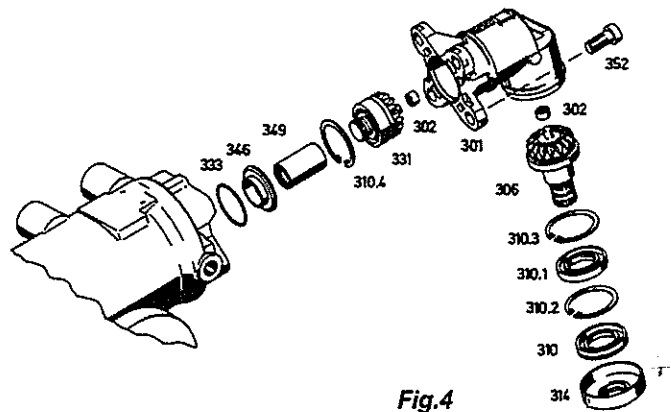

Fig.4
Unscrew hexagon screw (352) and remove complete bevel box (*see Fig.4*).
Remove protecting cap (314) and draw off shaft seal (310) with tool [33] (*see Fig.4*).
Unspring retaining ring (310.3) and remove any burr produced (**Fig.4**).